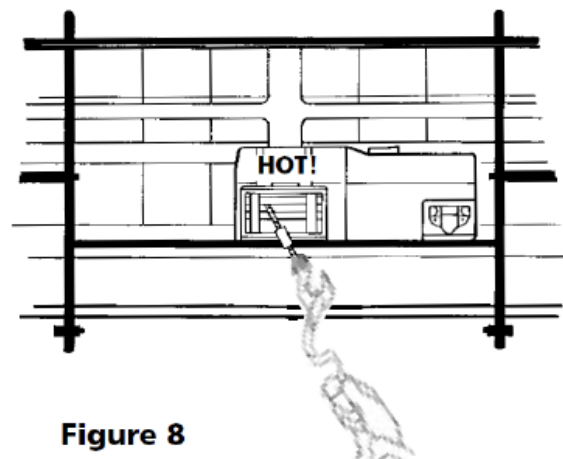

Figure 8
- ⚠ WARNING** *The drum and wire rope may get very hot (Figure 8).*